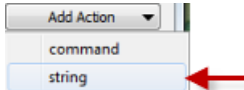

FIG. 388 Add Action - string
- Click **Add Action** and select **string** from the drop-down menu (FIG. 388):